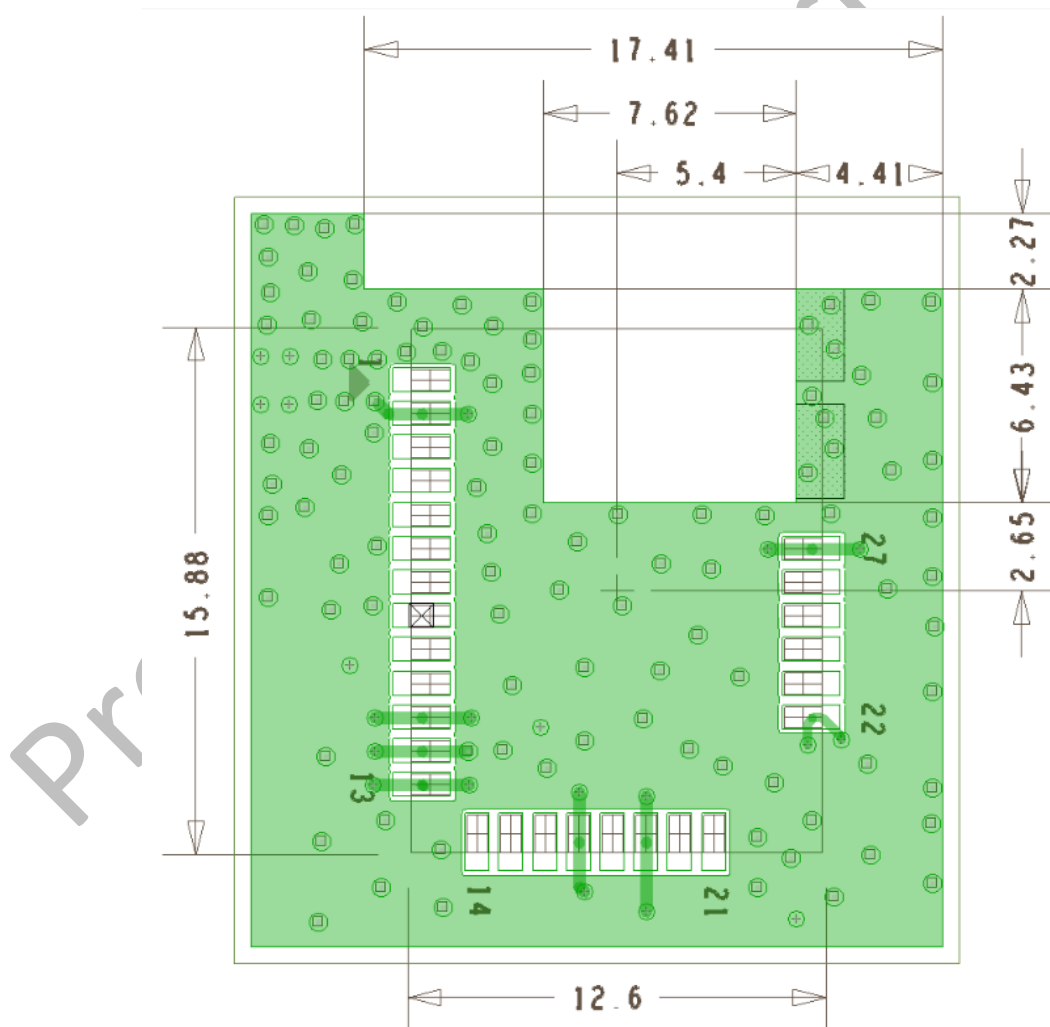

Figure 4: RF ground and antenna keepout for BSB03PA1X-CHP. Dimensions in mm.
- Place the module at the edge of the PCB with the recommended RF ground and keepout areas as shown in Figure 4. The keepout area is necessary for optimal performance of the antenna and metallization should be removed from this area on all layers of the PCB.